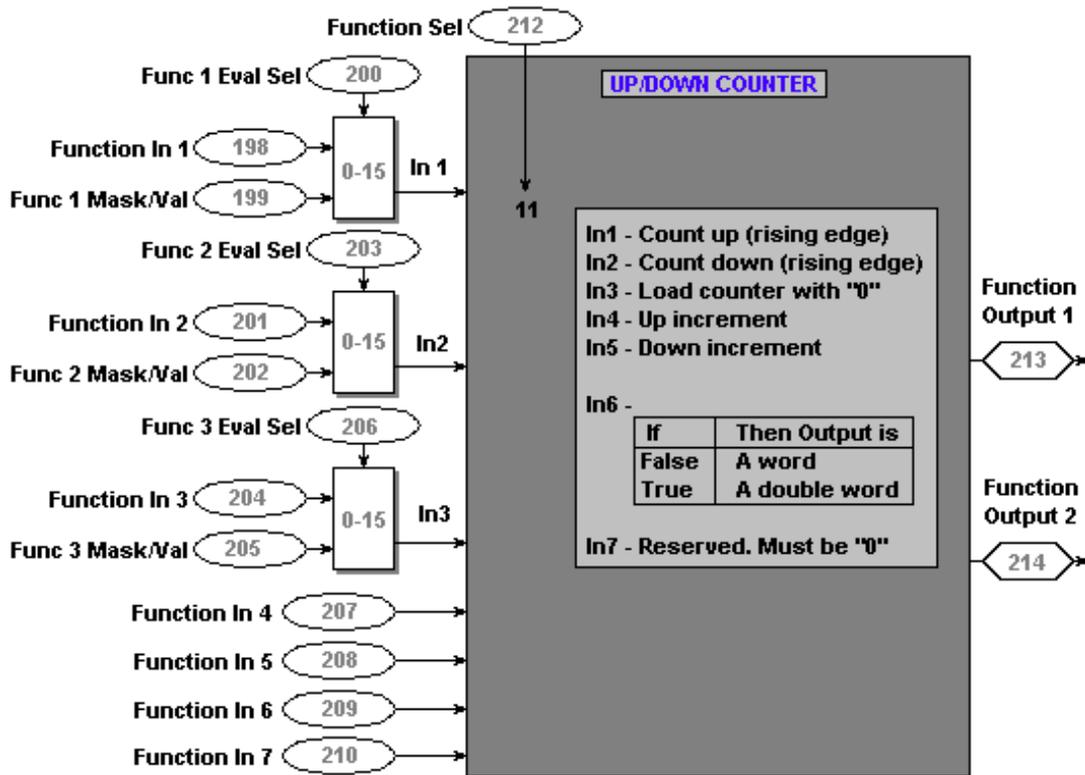

Figure 1
The Up/Down Counter function block is used to configure the drive with a counter circuit that increments or decrements based upon the programmed "function" inputs. To configure the drive with the Up/Down Counter circuit the [Function Sel] parameter (212) must be programmed appropriately. Refer to figure 1.